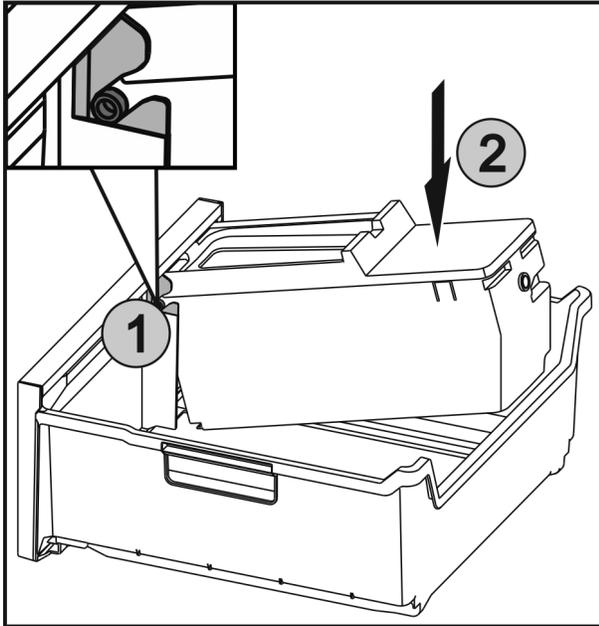

Fig. 49
- ▶ Insert the axles Fig. 49 (1) on the EasyTwist-Ice in the guides and push the rear side Fig. 49 (2) until the lug engages.